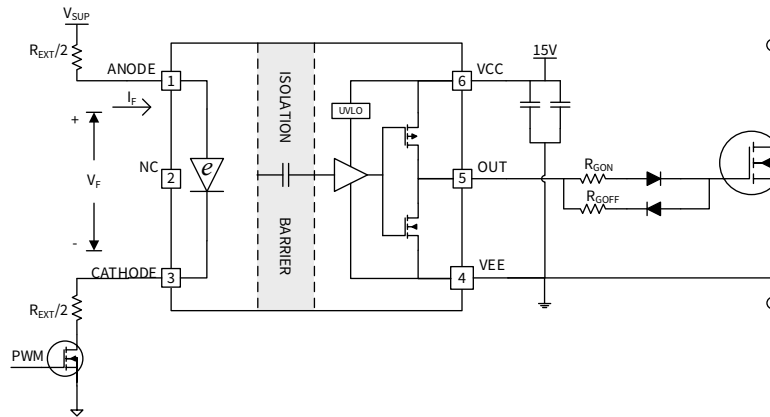
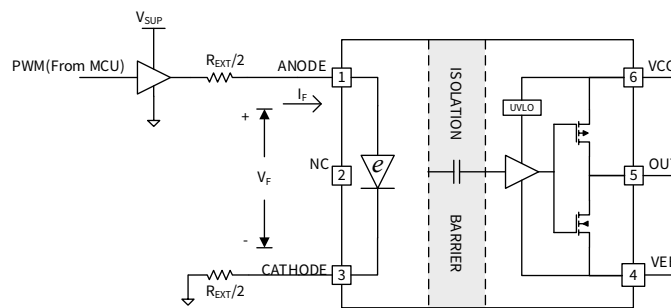
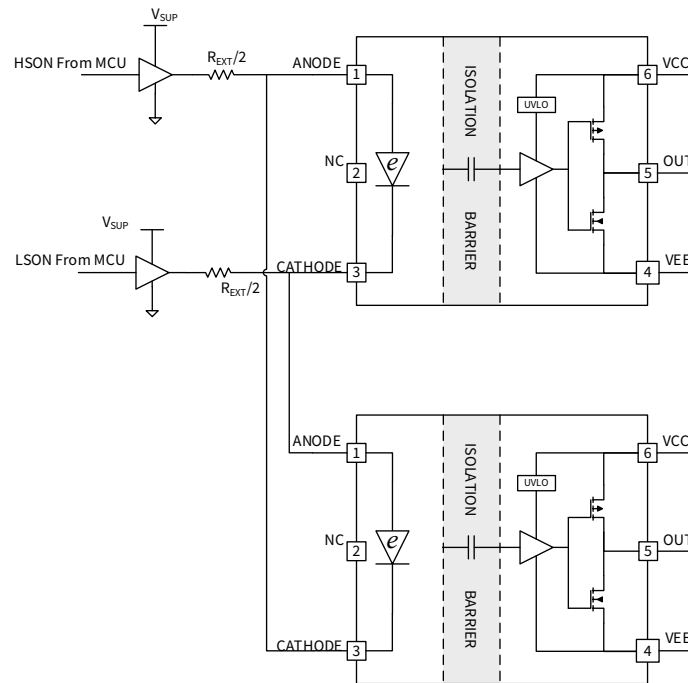

Figure 9.1 NSI6801E typical application circuit with NMOS driving input stage
Figure 9.2 NSI6801E typical application circuit with one buffer driving input stage
Figure 9.3 Interlock Protection using NSI6801E
NSI6801E requires 7mA to 16mA bias current that flows into the e-diode for normal operation. The PWM from MCU is not suitable to provide such current directly and external circuit is needed. In Figure 9.1, one NMOS is used with split input resistors. Another input drive method is using one buffer, as shown in Figure 9.2. The details to calculate input drive parameters are in Chapter 9.3.
For applications to drive power transistors in half bridge configuration, two NSI6801E can be used. Interlock protection is possible as shown in Figure 9.3. If the controller has some mistake, leading to negative dead time, the output PWM of NSI6801E is adjusted to avoid power transistor shoot through. The input side reverse breakdown voltage of NSI6801E is greater than 6.5V, which supports interlock protection of 3.3V or 5V PWM signal source.
The recommended forward current range for NSI6801E is 7mA to 16mA. The value of input resistor, buffer supply voltage and buffer internal resistance influence the forward current, as shown in Equation (1). In Figure 9.1, R_{IN1} is the on-resistance of the external NMOS. In Figure 9.2, R_{IN2} is the buffer output impedance in output “High” state. In Figure 9.3, R_{IN3} is the summary of buffer output impedance in “High” and “Low” state.